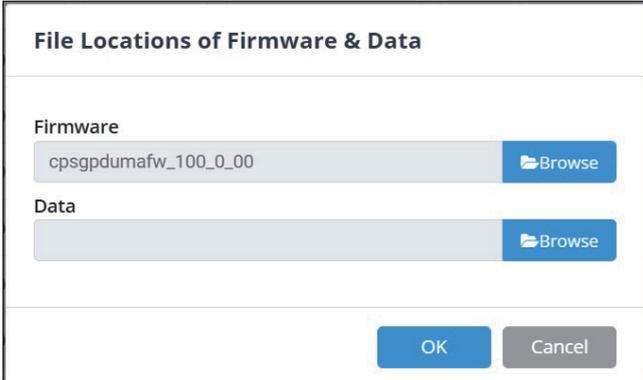

Figure 3
6. Select the Firmware file and click **OK** to implement firmware upgrade, as shown in Figure 3.